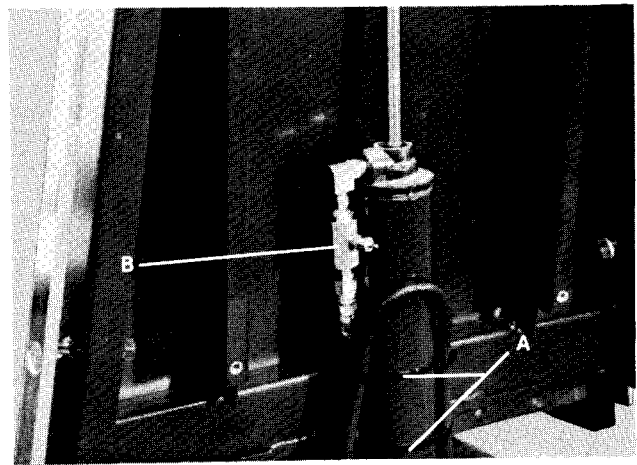

Fig. 25 Model 112 Shown
- 4) Remove (2) large nylon ties from cylinder, Item "A", Fig. 25.
- 5) Remove the (2) Hose Fittings from the defective cylinder using 9/16" and 7/16" wrenches. On Models 112 & 113 only, a 9116" wrench should be used to remove the needle valve assembly from the rod end port of the defective cylinder, Item B, Fig. 25.
- 9) Connect hose fittings tightly to new cylinder. (On Models 112 & 113 install needle valve in port on rod end of cylinder, Item B, Fig. 25. Position valve parallel with cylinder body. (Valve stem should point away from table back.) Lay solenoid electric cord along side of hoses.
- 10) Install (2) Nylon Ties, Item "A", Fig. 25 on the cylinder.